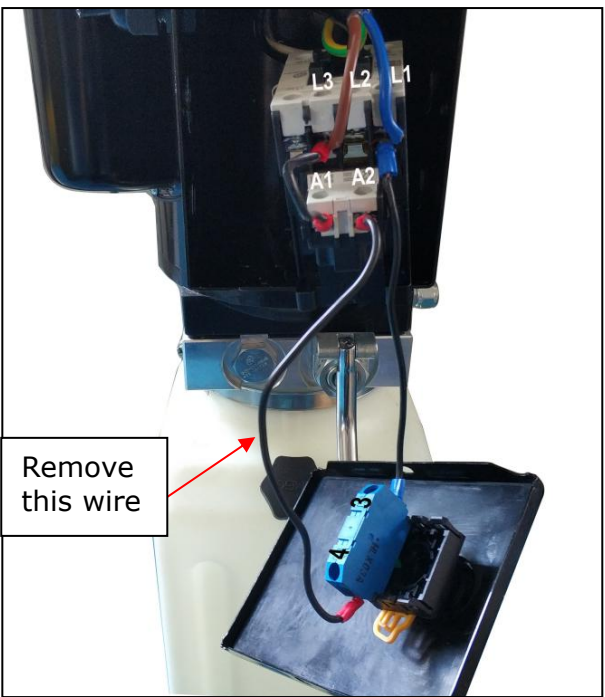
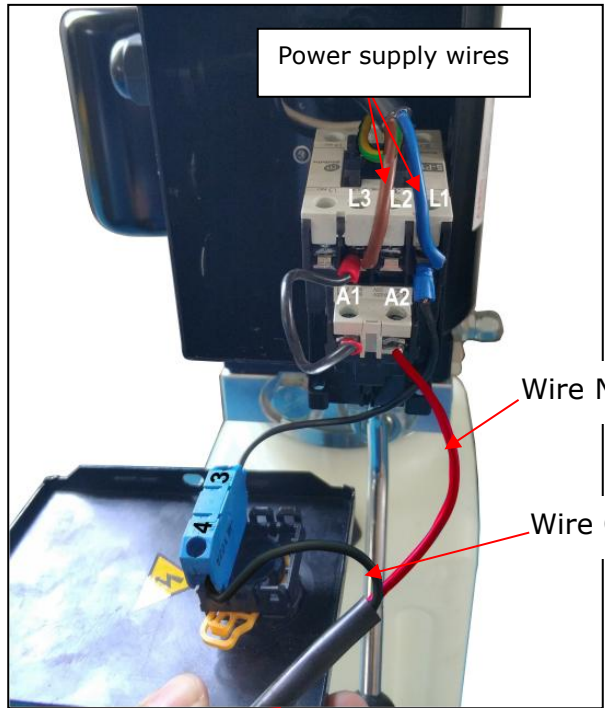

Fig. 41
Fig.42
- c. Connecting the limit switch: Remove the short wire connecting terminal 4# of control button and A2 of AC contactor firstly (See Fig. 41), then connect wire C#(black wire) of limit switch with terminal 4# of control button and connecting wire NC#(red wire) with terminals A2 of AC contactor respectively. (See Fig. 42)